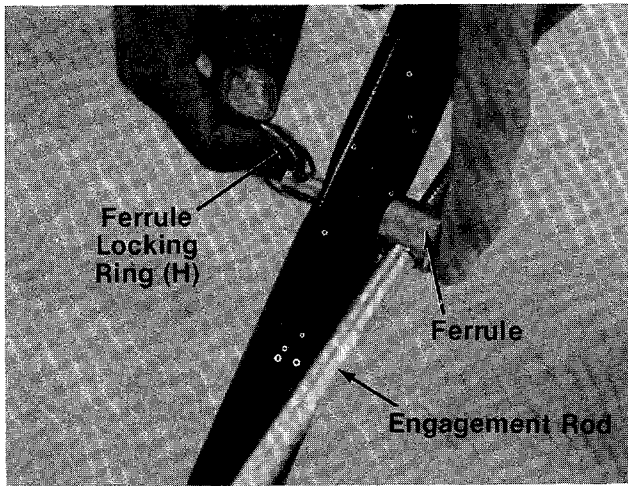

FIGURE 8.
10. With handle in the down position (released), place ferrule (B) on threaded end of engagement rod. Thread ferrule onto engagement rod until it lines up with the hole in lower handle.
11. Place ferrule into hole in lower handle. Secure with ferrule locking ring (H). See figure 8. ←